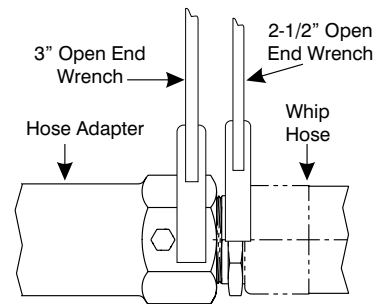

Figure 11-13. Hose Adapter, and Whip Hose
- a. Hold the Hose Adapter (15) across its flats with a 3-inch open end wrench. Refer to Figure 11-13.
- b. Use a 2-1/2-inch open-end wrench to thread the Whip Hose (14) from the Hose Adapter (15). Refer to Figures 11-13 and 11-14.